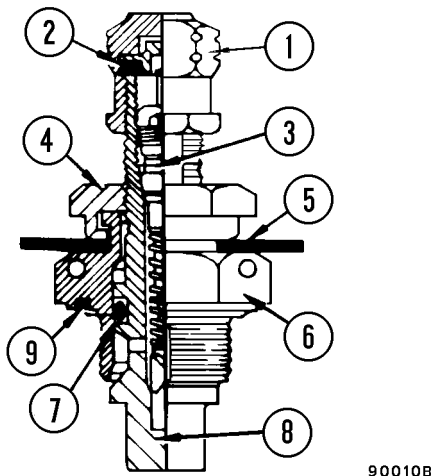

FIGURE 30-9. CHARGING VALVE
8. **Brake accumulator:** Turn the "T" handle on charging valve adapter (6) clockwise to open the accumulator gas valve. Do not turn the "T" handle all the way down as it will damage the valve core.
- Steering accumulator:** Hold charging valve body (6, Figure 30-9) with a wrench while unscrewing swivel nut (4) three complete turns with another wrench. This will open the poppet inside the accumulator gas valve.
Steering accumulator: Hold charging valve body (6, Figure 30-9) with a wrench while tightening swivel nut (4) to **7 - 11 N·m (5 - 8 ft lb)** with another wrench. This will close the poppet inside the accumulator gas valve.